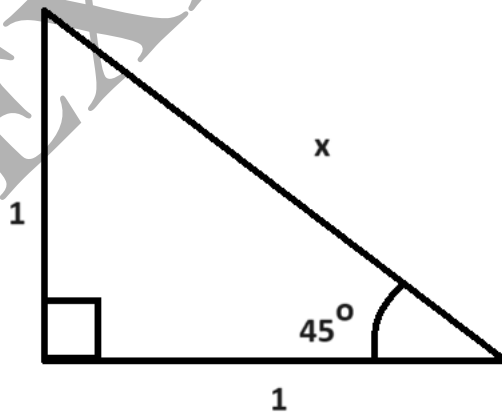

Figure Q1c: Triangle.
- c) **Figure Q1c**, without using a calculator, evaluate i) $\sin(45^\circ)$, ii) $\cos(45^\circ)$, iii) $\tan(45^\circ)$, iv) $\operatorname{cosec}(45^\circ)$ and v) $\sec(45^\circ)$